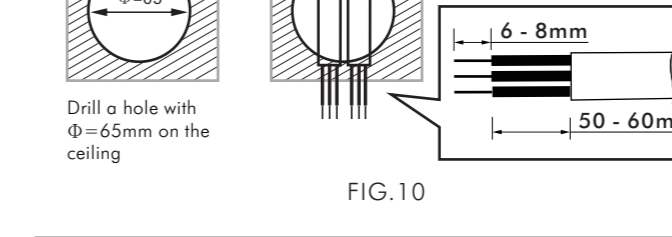

FIG.11
3.4.2 Unscrew protection cover on power box with screwdriver. RJ-12 sockets are for detector connection and terminals are for power and load, then put the protection cover back and screw it tightly (See FIG.11).